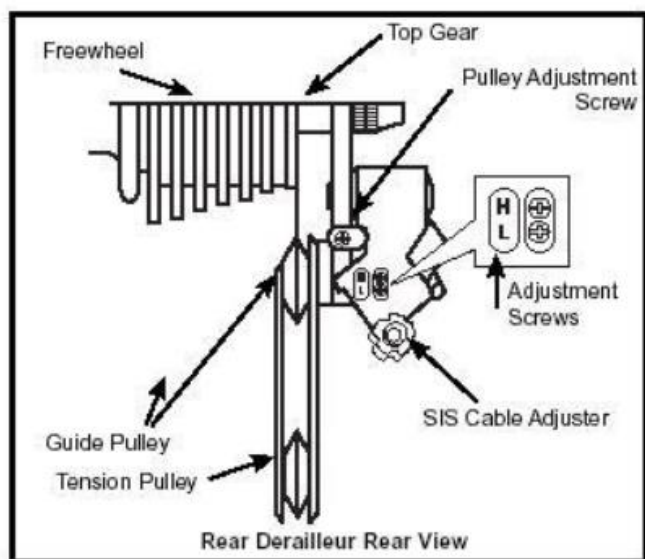

Figure D2: Rear Derailleur Rear View.
- adjust high gear screw (H) so that the Tension Pulley (Figure D2) is straight under the small cog (barely outward).
- release wire by turning anchor screw (4) anti-clockwise, gently pull wire tight, tighten anchor screw clock-wise to secure mechanical wire
- Shift to large cog. Adjust lower limit screw (L). Align pulley so that it can't over-shift.